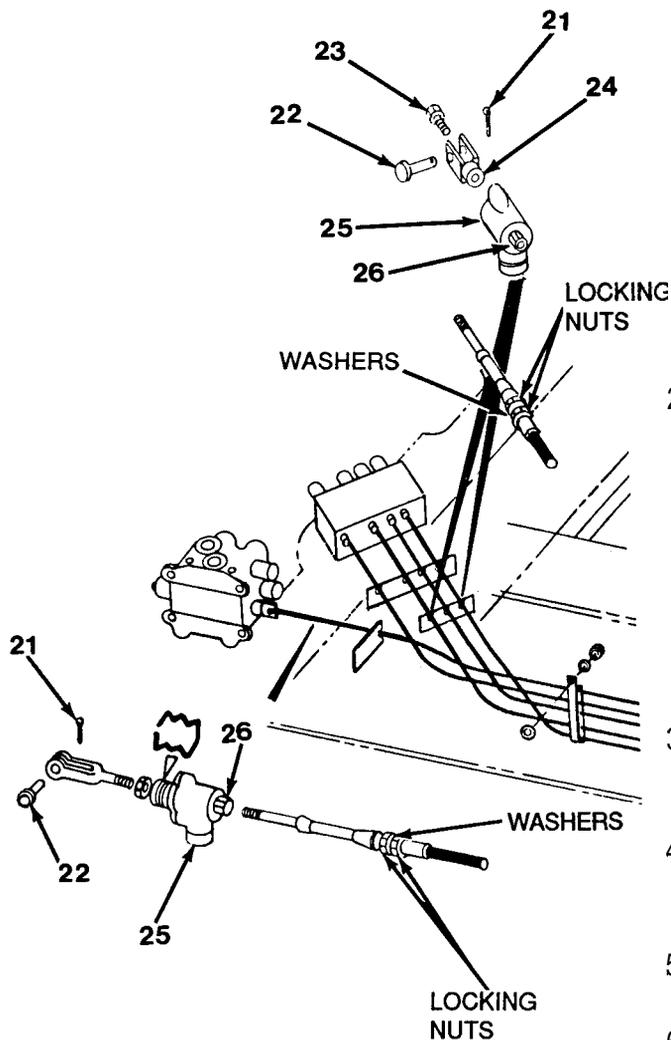

Figure 17-5
1. Remove cotter pin (21) and pin (22, Figure 17-5).